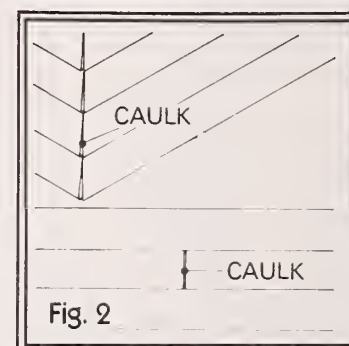
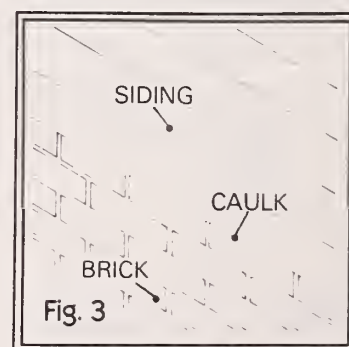

Fig. 2
Fig. 3
- Gaps in sidings and at corners of house (fig. 2). Joints formed by siding and masonry (fig. 3).